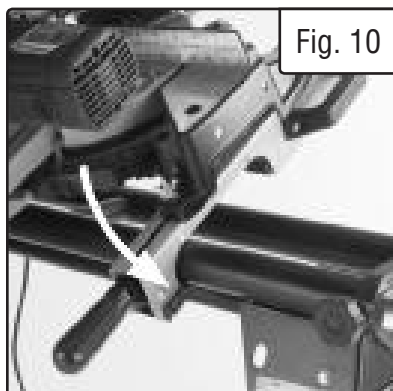

Fig. 10
6. Push the back of the brackets down to engage them onto the back frame (Fig. 10).